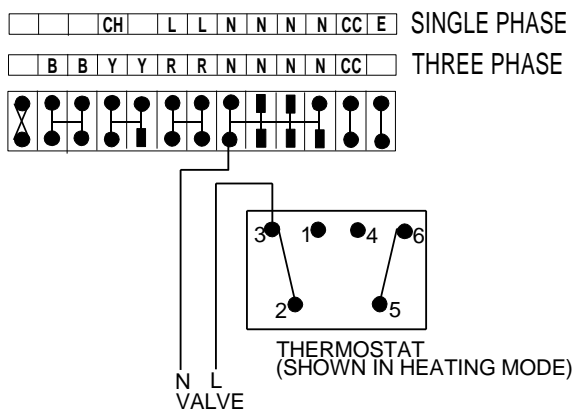
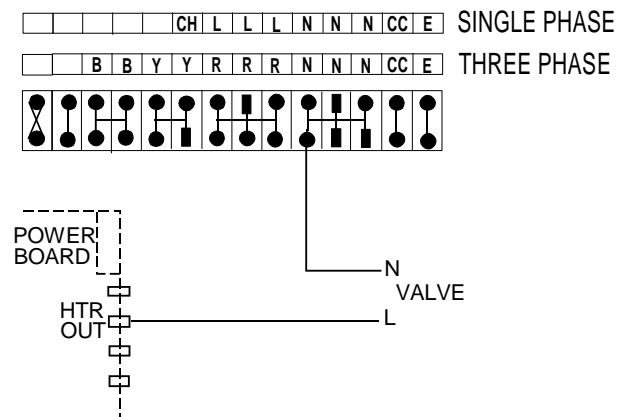

Fig. 3 526 Models
Fig. 4 527 Models.
- 8 If a valve is to be fitted, connect to the indoor unit as shown in either Fig. 3, (HL) or Fig. 4, (HLR).